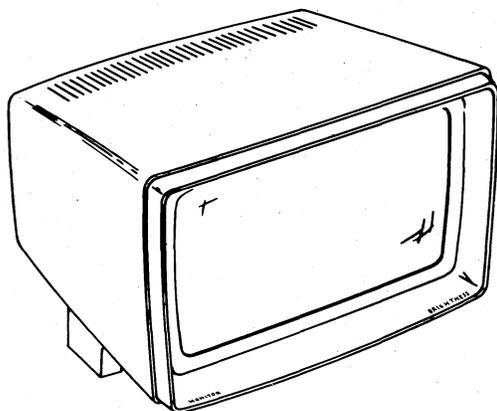

Figure 1 - DATASPEED 40 Display Monitor
1.01 This section provides description and operation for the DATASPEED 40 display monitor (40 MN101) as shown in Figure 1. Refer to Part 5 of this section for other documents associated with the display monitor.